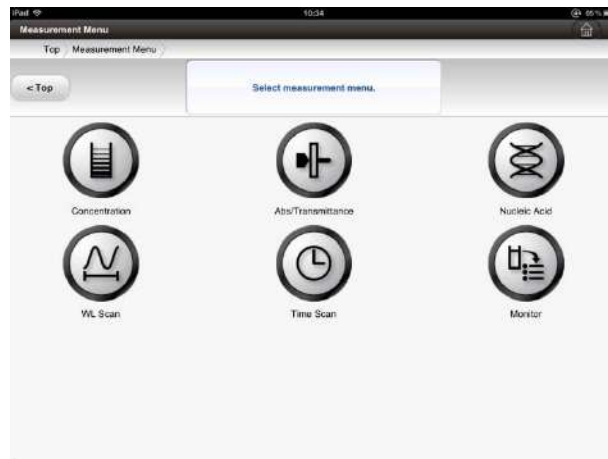

Fig. 4-2 Measurement Menu Window
- (2) Measurement Menu window (Fig. 4-2) will then be displayed. In order to set conditions for concentration measurement, press  [concentration button] icon.